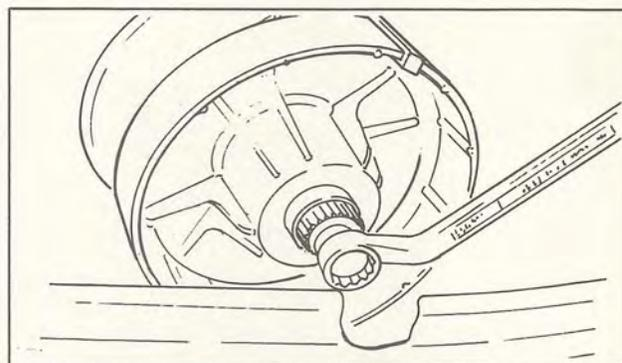

Fig. 2-10
- (4) With primary sheave installer/remover 1 being installed, remove the primary sliding sheave and primary fixed sheave from the crankshaft. (Fig. 2-10)